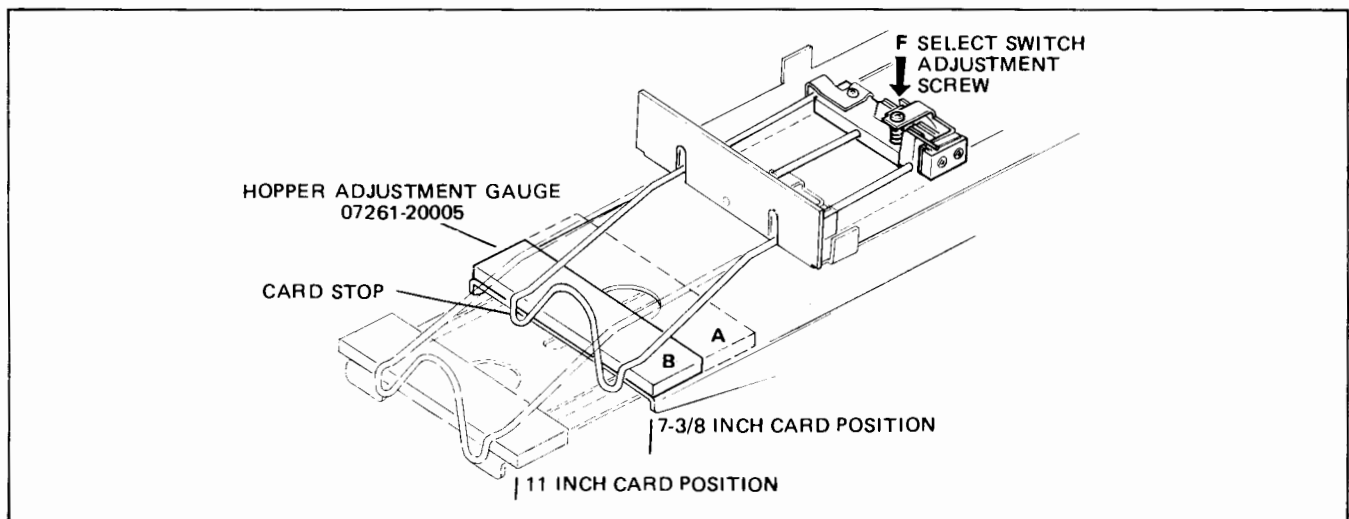

Figure 5-20. Select Switch Adjustment
- a. Adjust select hopper switch adjustment screw located underneath input hopper (F) (Figure 5-20) until switch trips when card stop is lifted .005 to .015 inches off reject hopper gauge with hopper set for 7-3/8-inch cards.
- b. When sliding select hopper back in for next measurement position, place gauge in hopper in position A and slide it to position B (Figure 5-20) without raising card stop above gauge at any time.